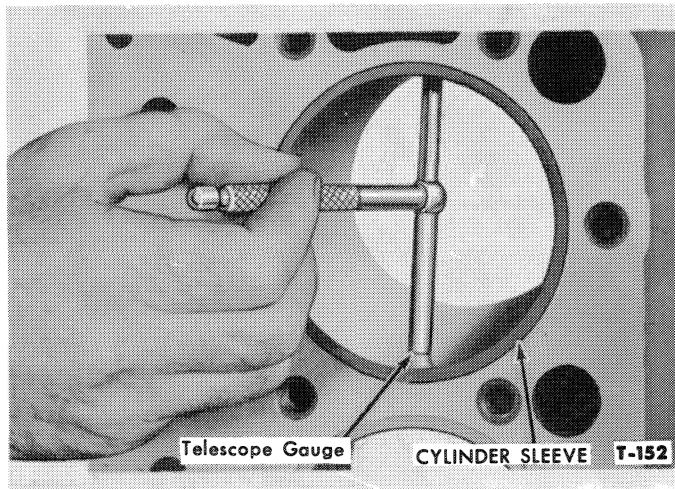

Figure 51—Measure Cylinder Sleeve Bore
3. Check the cylinder bore for taper, out of round and wear, with a cylinder bore gauge, telescope gauge, or inside micrometers, see Figure 51.